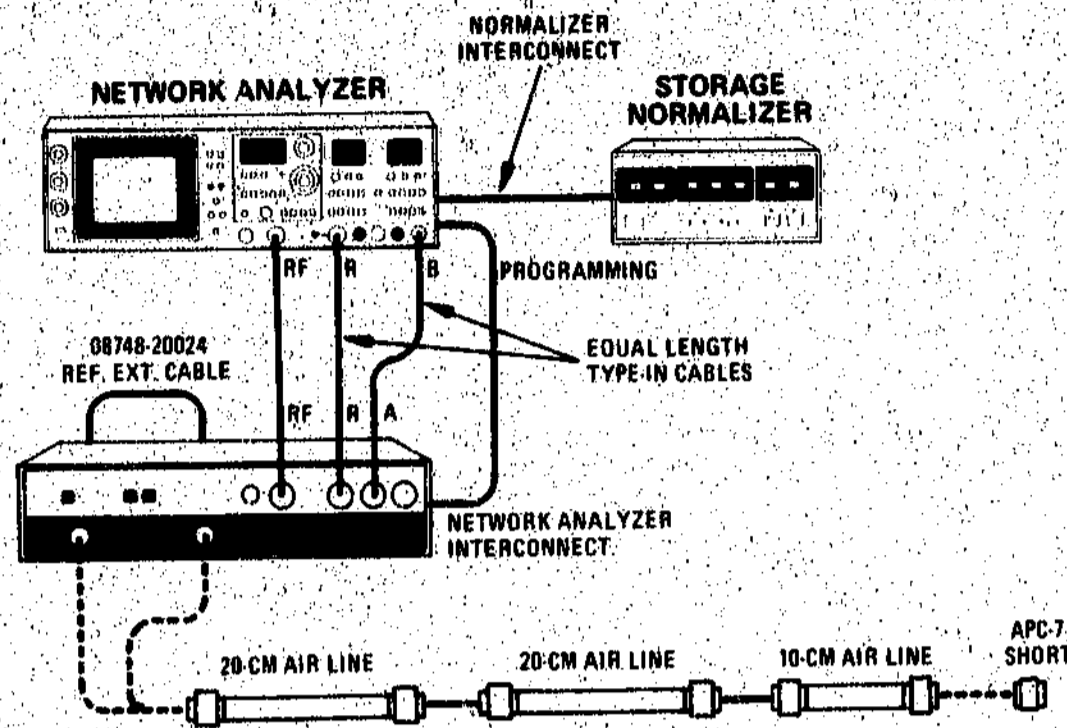

Figure 4-4. Test Port Open/Short Ratio Test Setup
- b. Connect equipment as shown in Figure 4-4. Connect cable HP part No. 08748-20024 on the 8748A rear panel. Set equipment controls as follows: